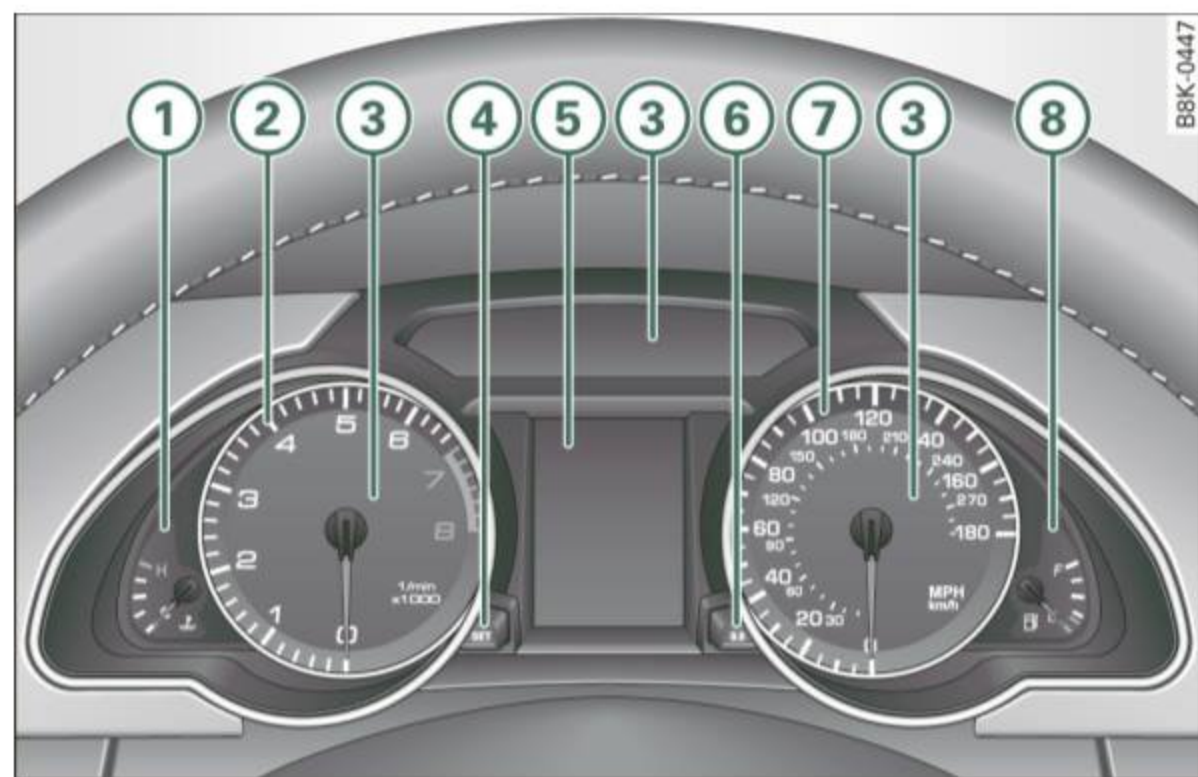

Fig. 2 Overview of the instrument cluster
The engine coolant gauge ⇒ fig. 2 ① only works when the ignition is on. To prevent damage to your engine, please note the following important points:
The speedometer needle  ⇒ *page 12*, fig. 2 should only briefly be in the red zone: you could damage your engine! The beginning of the red zone varies depending on the engine.